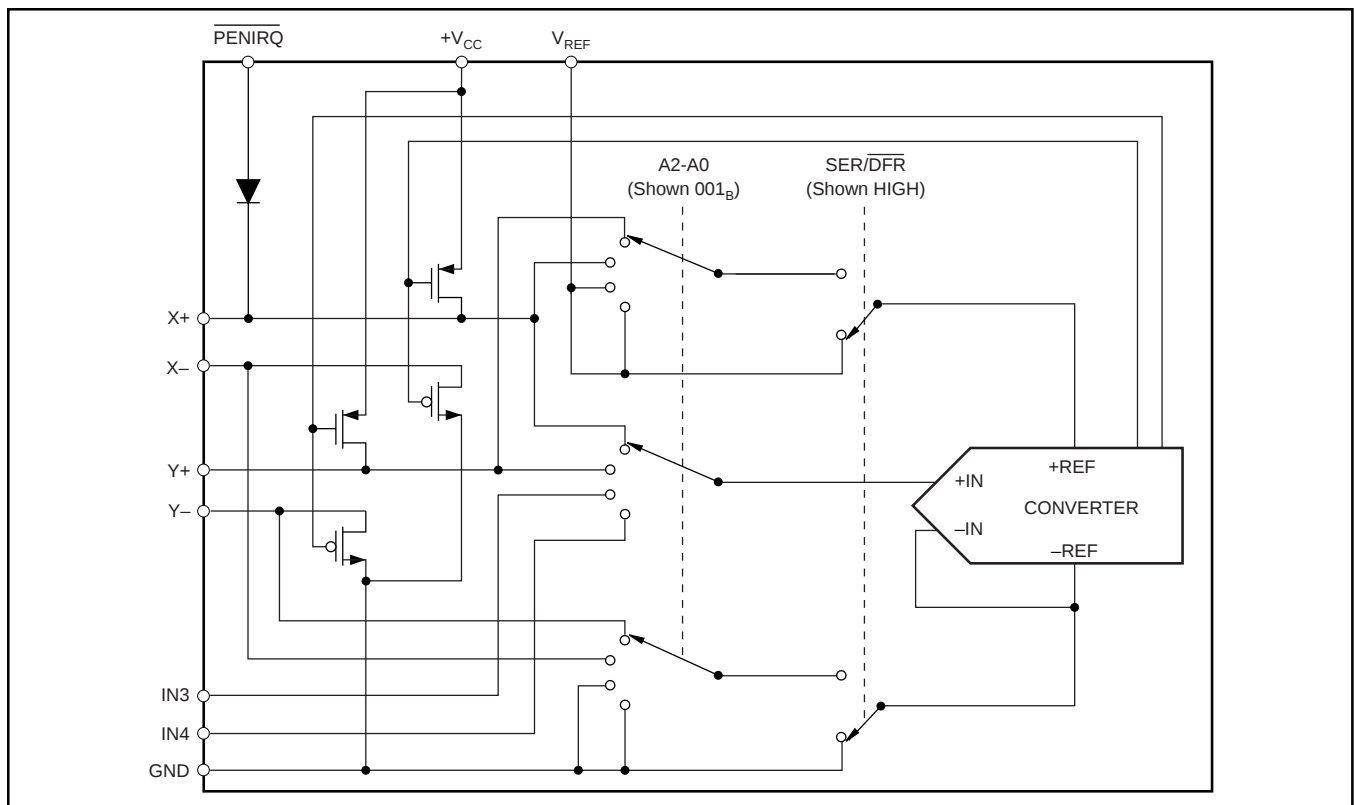
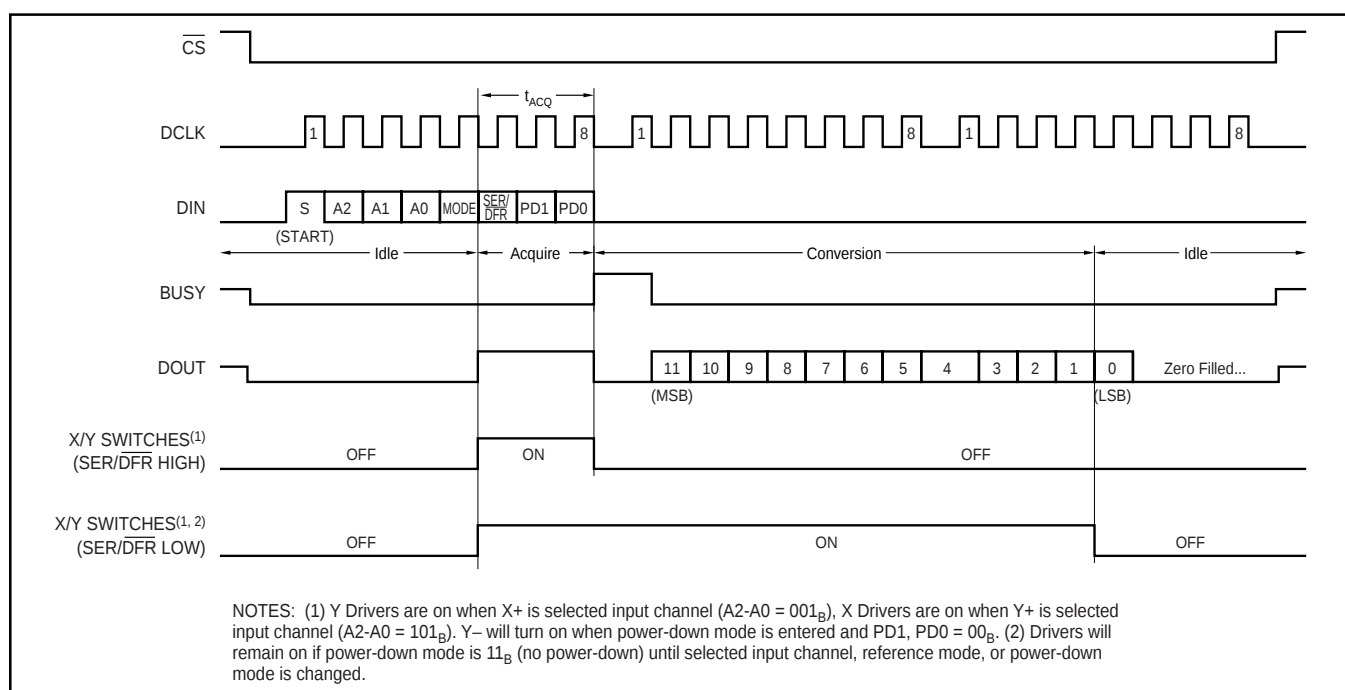

FIGURE 2. Simplified Diagram of Analog Input.
FIGURE 5. Conversion Timing, 24 Clocks per Conversion, 8-bit Bus Interface. No DCLK Delay Required with Dedicated Serial Port.
See Figure 2 for a block diagram of the input multiplexer on the ADS7843, the differential input of the ADC, and the converter's differential reference. Table I and Table II show the relationship between the A2, A1, A0, and SER/DFR control bits and the configuration of the ADS7843. The control bits are provided serially via the DIN pin—see the Digital Interface section of this data sheet for more details.
When the converter enters the hold mode, the voltage difference between the +IN and –IN inputs (see Figure 2) is captured on the internal capacitor array. The input current on the analog inputs depends on the conversion rate of the device. During the sample period, the source must charge the internal sampling capacitor (typically 25pF). After the capacitor has been fully charged, there is no further input current. The rate of charge transfer from the analog source to the converter is a function of conversion rate.
The voltage difference between +REF and -REF (shown in Figure 2) sets the analog input range. The ADS7843 will operate with a reference in the range of 1V to +V_{CC}. There are several critical items concerning the reference input and its wide voltage range. As the reference voltage is reduced, the analog voltage weight of each digital output code is also reduced. This is often referred to as the LSB (least significant bit) size and is equal to the reference voltage divided by 4096. Any offset or gain error inherent in the ADC will appear to increase, in terms of LSB size, as the reference voltage is reduced. For example, if the offset of a given converter is 2LSBs with a 2.5V reference, it will typically be 5LSBs with a 1V reference. In each case, the actual offset of the device is the same, 1.22mV. With a lower reference voltage, more care must be taken to provide a clean layout including adequate bypassing, a clean (low noise, low ripple) power supply, a low-noise reference, and a low-noise input signal.
Figure 5 shows the typical operation of the ADS7843's digital interface. This diagram assumes that the source of the digital signals is a microcontroller or digital signal processor with a basic serial interface. Each communication between the processor and the converter consists of eight clock cycles. One complete conversion can be accomplished with three serial communications, for a total of 24 clock cycles on the DCLK input.
See Figure 5 for the placement and order of the control bits within the control byte. Tables III and IV give detailed information about these bits. The first bit, the 'S' bit, must always be HIGH and indicates the start of the control byte. The ADS7843 will ignore inputs on the DIN pin until the start bit is detected. The next three bits (A2-A0) select the active input channel or channels of the input multiplexer (see Tables I and II and Figure 2). The MODE bit determines the number of bits for each conversion, either 12 bits (LOW) or 8 bits (HIGH).
The SER/DFR bit controls the reference mode: either single-ended (HIGH) or differential (LOW). (The differential mode is also referred to as the ratiometric conversion mode.) In single-ended mode, the converter's reference voltage is always the difference between the V_{REF} and GND pins. In differential mode, the reference voltage is the difference between the currently enabled switches. See Tables I and II and Figures 2 through 4 for more information. The last two bits (PD1-PD0) select the power-down mode as shown in Table V. If both inputs are HIGH, the device is always powered up. If both inputs are LOW, the device enters a power-down mode between conversions. When a new conversion is initiated, the device will resume normal operation instantly—no delay is needed to allow the device to power up and the very first conversion will be valid. There are two power-down modes: one where PENIRQ is disabled and one where it is enabled.
NOTES: (1) Reference voltage at converter: +REF – (–REF). See Figure 2.
(2) Input voltage at converter, after multiplexer: +IN – (–IN). See Figure 2
Another important consideration for power dissipation is the reference mode of the converter. In the single-ended reference mode, the converter's internal switches are on only when the analog input voltage is being acquired (see Figure 5). Thus, the external device, such as a resistive touch screen, is only powered during the acquisition period. In the differential reference mode, the external device must be powered throughout the acquisition and conversion periods (see Figure 5). If the conversion rate is high, this could substantially increase power dissipation.